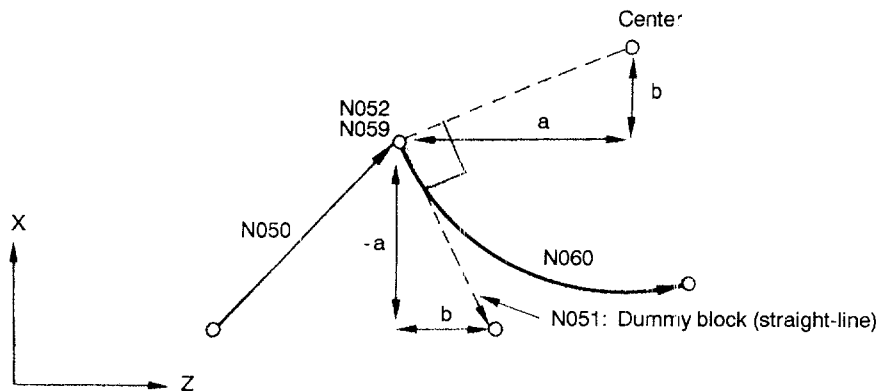
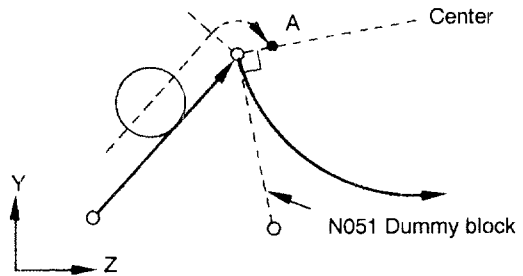

Fig. 3.54 Insertion of Dummy Block
Fig. 3.55 Movement to Point A by Execution of Dummy Block
- If the object of the dummy block is circular interpolation, enter the dummy block as shown in the example program given below. Insert the dummy block in which the straight line expressing the tangential direction at the start point of circular interpolation is specified as shown in Fig. 3.54. The cutting tool moves to point A as shown in Fig. 3.55 by the execution of the dummy block so that the following circular interpolation can be executed.